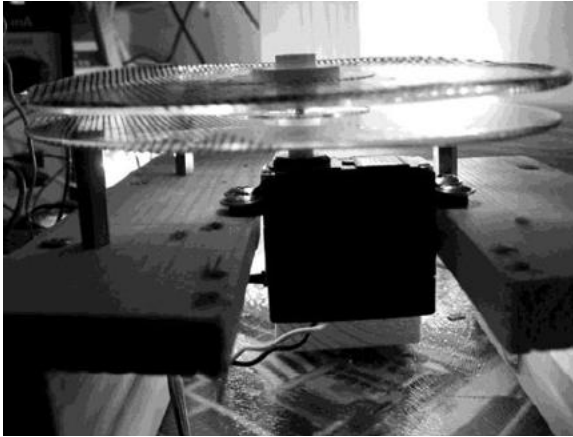

Figure 5-19. Side View of the Moire Wheel Rig
- A long thin bolt that can screw into the center hole on the motor shaft. It needs to be a couple of inches long ideally. This bolt is needed to couple the drive shaft of the motor to the uppermost of your plastic discs. You will also need some way to secure your plastic disc to the center bolt. In my prototype I used two of the supplied horns that came with the servo motor. Using a nut, I was able to secure the disc to the center bolt (see Figure 5-19).